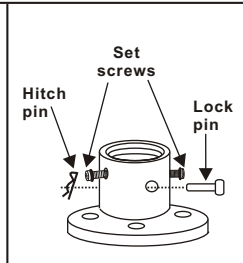

Figure 6
Step 2. Loosen the two set screws and remove the hitch pin and lock pin in the top coupling of the motor assembly. (Fig. 6)